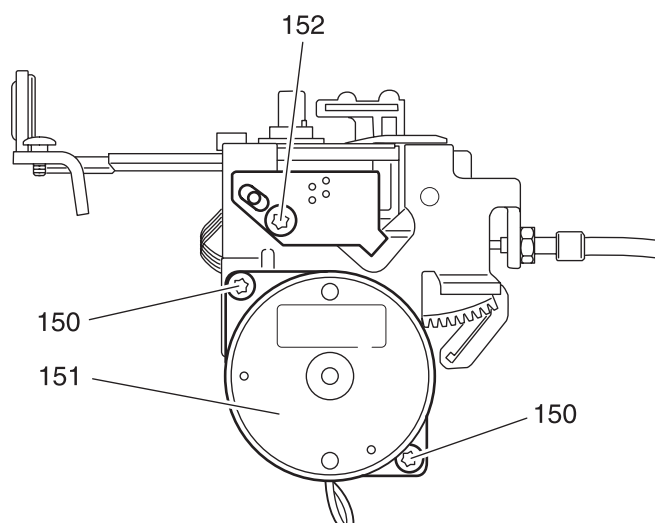

Fig. 95
- Slacken off screw 152 slightly, slide the circuit board until the pin are located at the center of the slot (fig. 95).